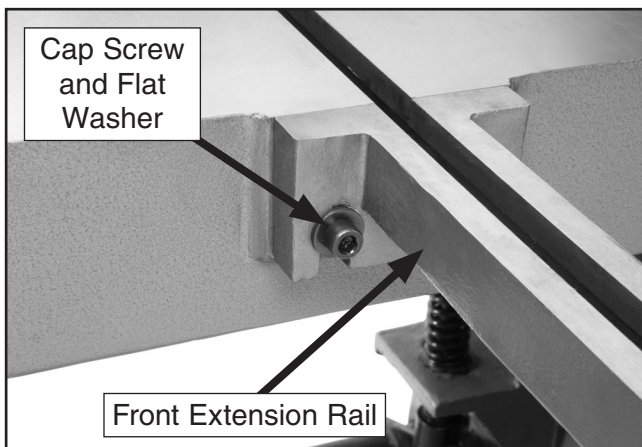

Figure 8. Front extension rail installed.
3. Place the front extension rails over the cap screws and behind the flat washers (**Figure 8**).